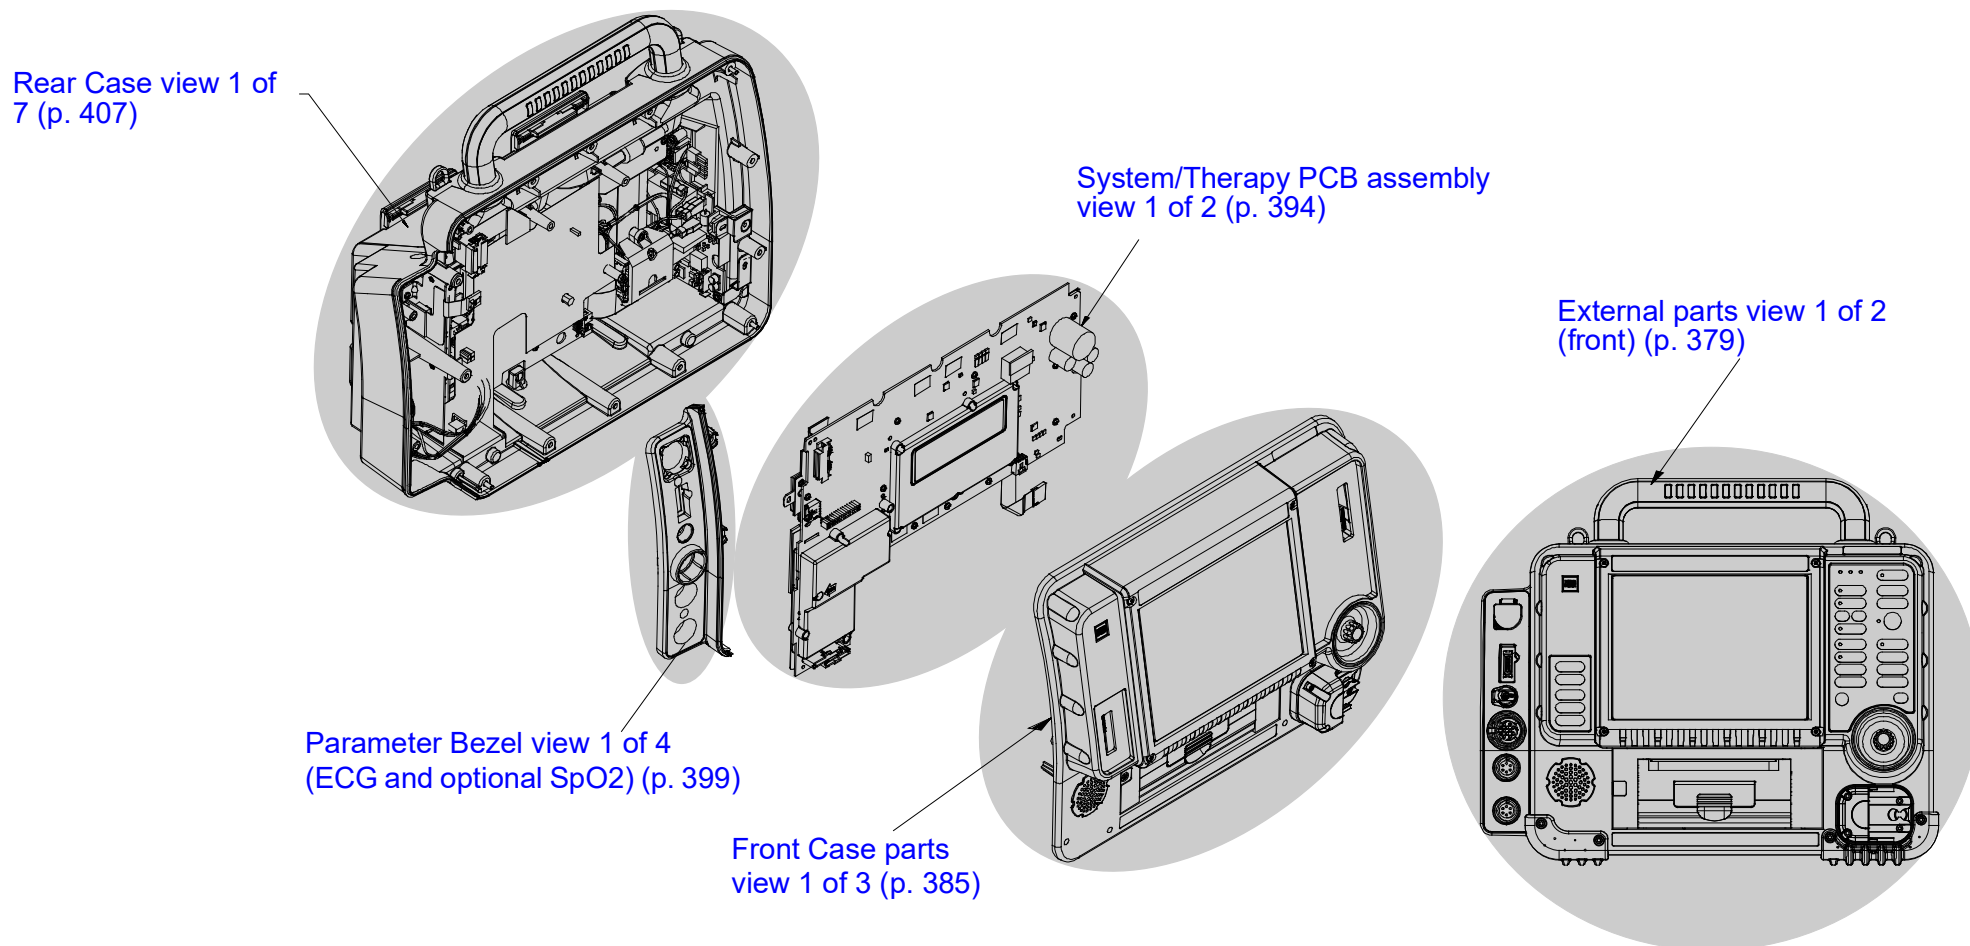

Figure 9.1—Assembly diagram configurator
- Assembly Diagram Configurator (Figure 9.1 on p. 376)—shows the main parts of the device with links to detailed assembly diagrams.